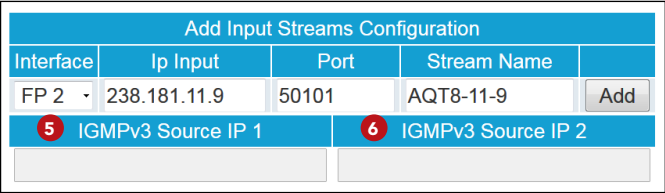

Figure 5.1b - View with IGMPv2 set on FP Config Tab
**Note:** If the port is set to IGMPv2, Source IP 1 and Source IP 2 will not be available to set up. When in IGMPv2, the input for these settings will be disabled and grayed out. (example: Figure 5.1b)